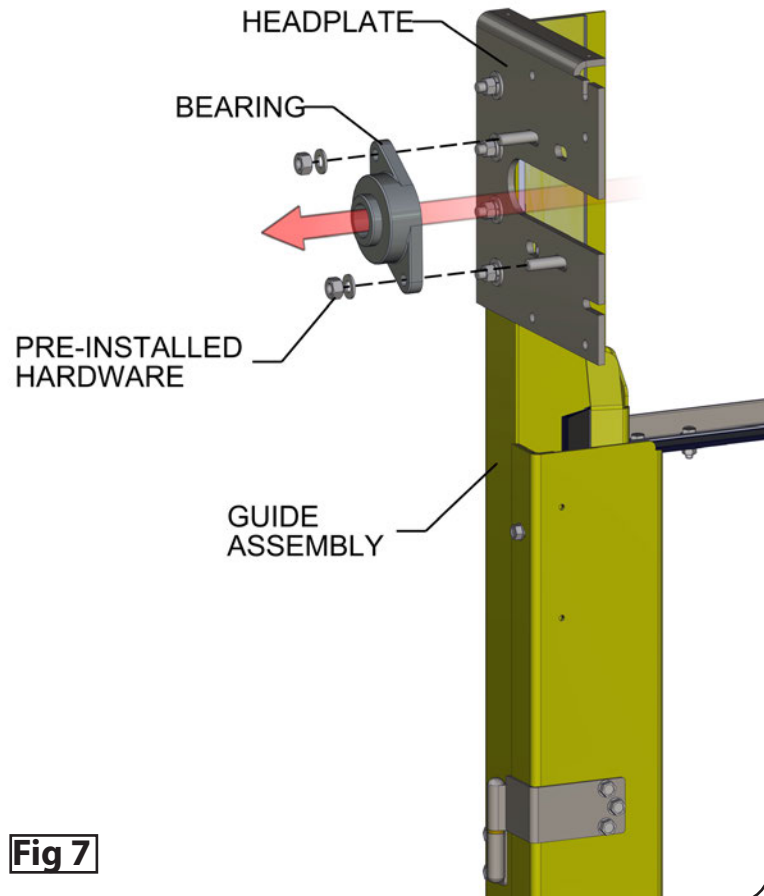

Fig 7
- Remove pre-installed bearing from both headplates as shown in FIG 7.